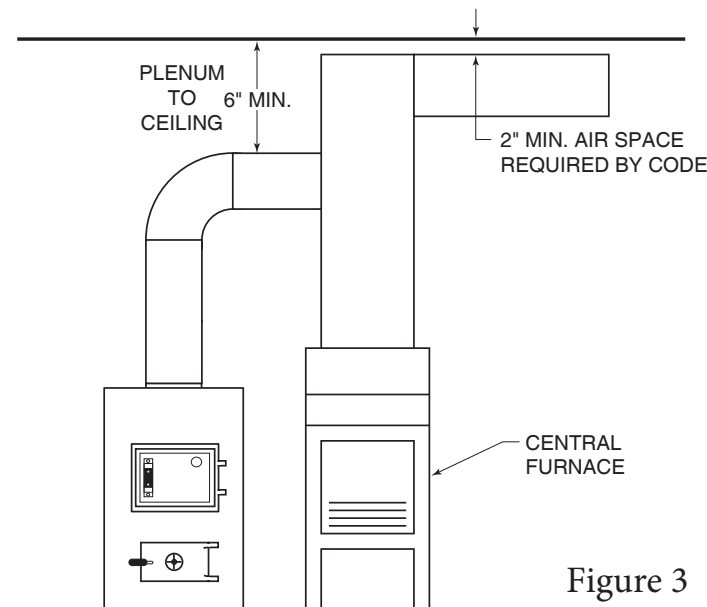

Figure 3
3. Check figures 3 through 5. Be sure you have the clearances shown below from the furnace and the connector pipe to combustible surfaces. If you have a solid brick or stone wall behind your furnace, you can place the furnace as close as you wish to the wall. If the wall is only faced with brick or stone, treat it as a combustible wall.